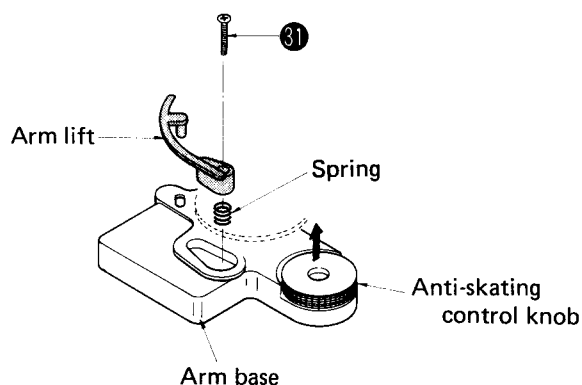

Fig. 6
5. To disassemble the lift substrate, disengage the arm lift fixing screw 31 before turning over the body, then remove the arm lift. (See Fig. 6)
6. Remove the anti-skating control knob. (See Fig. 6)